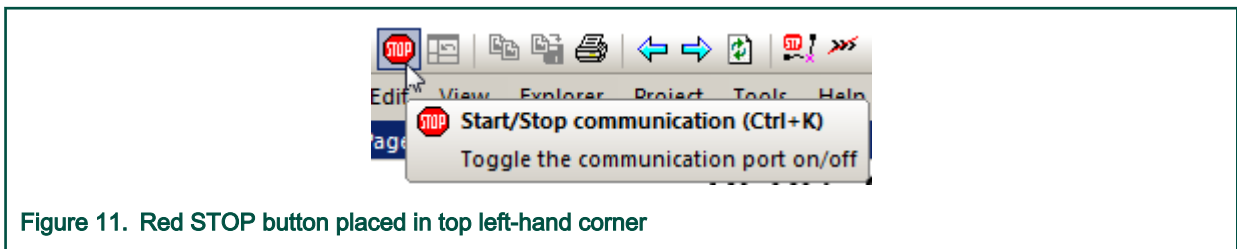

Figure 11. Red STOP button placed in top left-hand corner
- Click the communication button (the red STOP button in the top left-hand corner, as shown in Figure 11) to establish the communication.